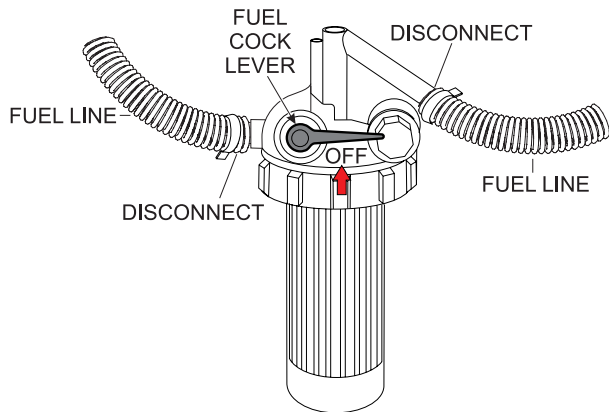

Figure 41. Fuel Cock Lever (OFF)
1. Place fuel cock lever (Figure 41) in the OFF (close) position.
1. Place fuel cock lever (Figure 41) in the **CLOSED** position.